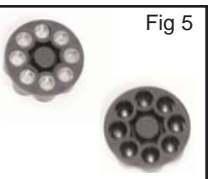

Fig 5
- Remove the clip and place a .177 caliber (4.5 mm) pellet, nose first, in each chamber (Fig.5). IMPORTANT: To avoid jams or deforming the pellets, make sure the pellet skirt is level or slightly below the rim of the chamber.
- Remove the clip and place a BB in each chamber (fig. 5). IMPORTANT: To avoid jams make sure that only one BB is in each chamber.